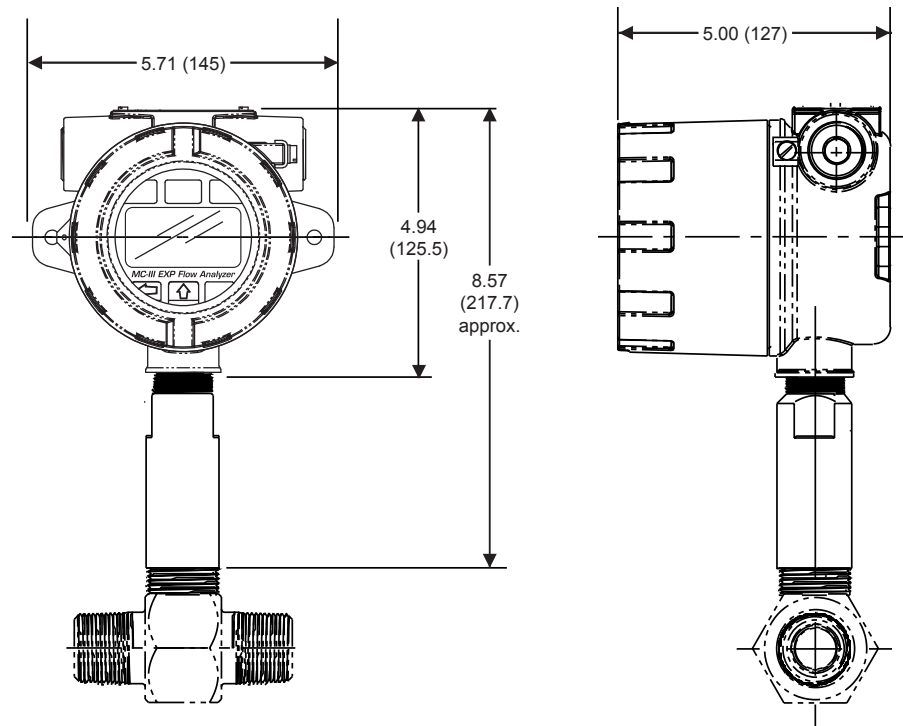

Figure 2.2—Direct mount to NuFlo turbine meter with 3/4-in. to 1-in. standoff tube (ATEX)
The ATEX-approved MC-III EXP may be mounted directly to a flowmeter, or mounted remotely on a pole and connected to a flowmeter with explosionproof signal cable. The type of meter mount required varies with the meter in use. See Figures 2.2 through 2.4 for installation dimensions.
- Mount the device to a NuFlo turbine meter. A 3/4-in. to 1-in. standoff tube is required (Figure 2.2, page 21).